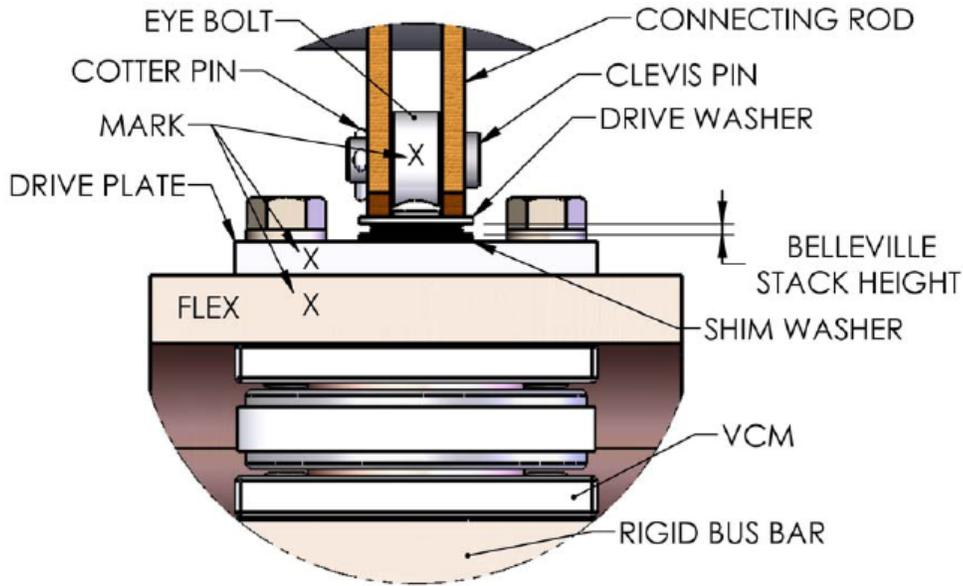
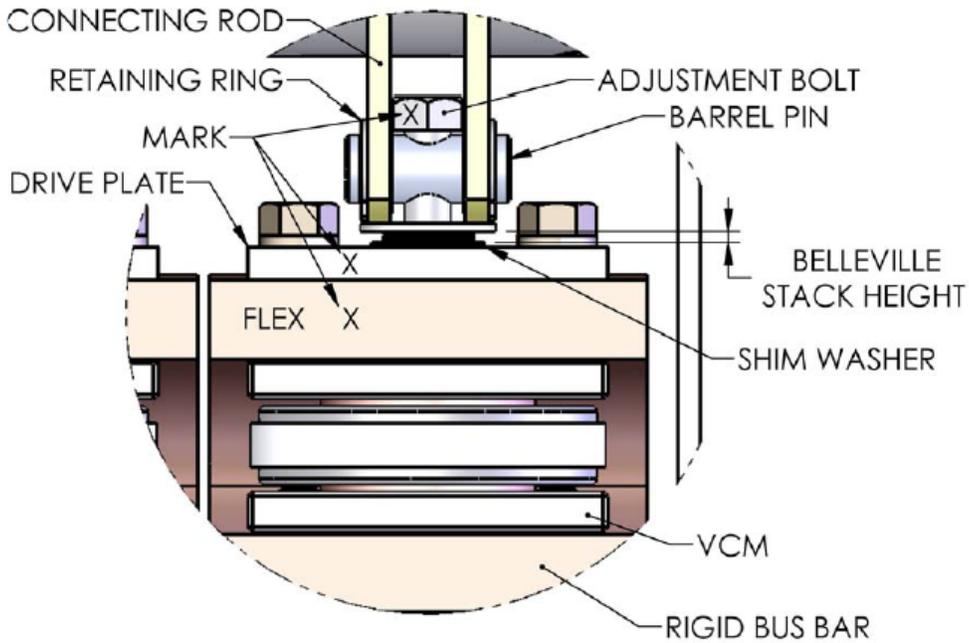

Figure 3.
Figure 4.
3.2 Mark the position of the drive plate relative to the flexible lead. See Figure 3 and Figure 4.
3.3 Close the switch and remove the four silicon bronze bolts from the drive plate. Refer to Figure 3.
6.1 Refer to Figure 3 and Figure 4 to determine which drive mechanism components are used on the switch being repaired. If the switch drive components look like those in Figure 3, continue with 6.2 through 6.7. If the components look like those in Figure 4, skip to 6.8 through 6.13.
7.1 Refer to Figure 3 and Figure 4 to determine which drive mechanism components are used on the switch being repaired. If the components look like those in Figure 3, continue with 7.2 through 7.3; if the components look like those in Figure 4, skip to 7.4 through 7.7.
7.2 For Figure 3, adjustment of the alignment consists of rotating the eye bolt, ½ turn at a time until the pick up angle range specified on the 148- level drawing is obtained.
7.4 For Figure 4, begin with adjustment bolt engaged only 3 turns into the drive plate. Slide connecting rods onto pins and rotate shaft to fully close switch. Refer to the 150 level data sheet, Pg.2 for fully closed position for the switch in question.